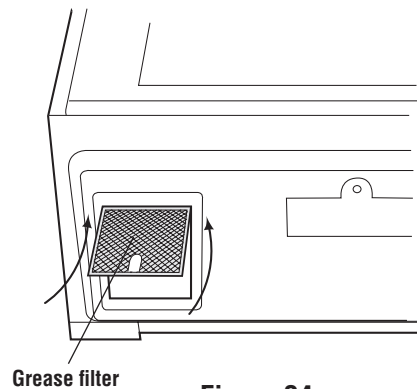

Figure 24
7. Install grease filters by fitting into the opening. Push back and up into place. See Figure 24.